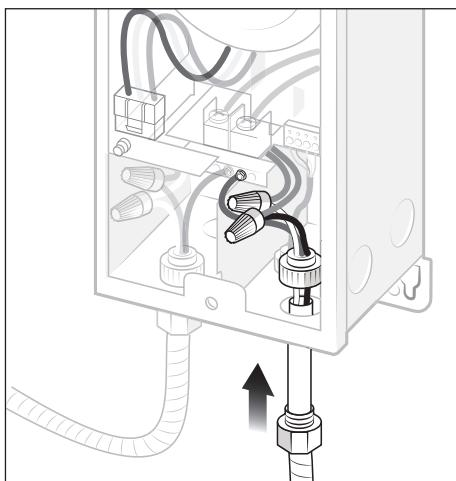

**Figure 3. Connect High Voltage Wires**
2. Remove the cover. The cover is held on by one screw, see *Figure 3 (a)*.
4. Thread a conduit connector that is rated to local code into the knockout hole on the Light Controller, see *Figure 3 (b)*.
5. Feed 120 VAC through the conduit and conduit connector on the Light Controller, see *Figure 3*.
6. Connect the green ground wire to the ground terminal bar in the Light Controller, see *Figure 3 (c)*.
7. Use wire nuts to connect the line wires (black to black) and neutral wires (white to white), see *Figure 3 (d)*.